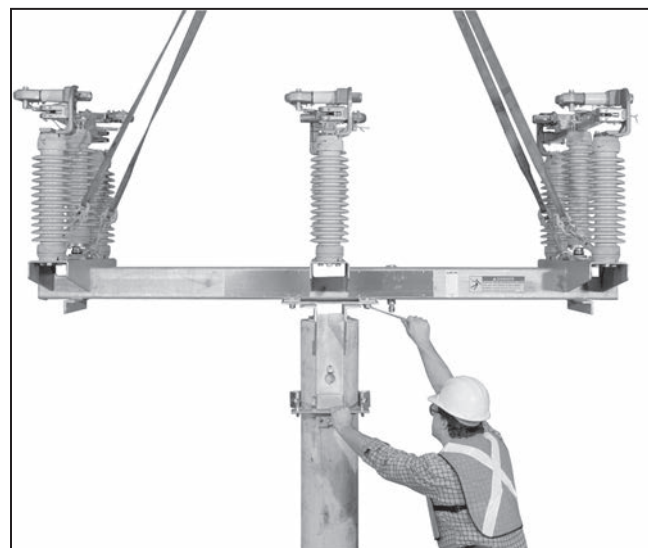

Figure 14. Bolt switch to switch-mounting bracket.
**STEP 11.** Bolt the switch to the switch-mounting bracket using four  $\frac{5}{8}$ -11 $\times$ 1 $\frac{3}{4}$ -inch galvanized steel cap screws, flat washers, lockwashers, and nuts furnished. See Figure 14.